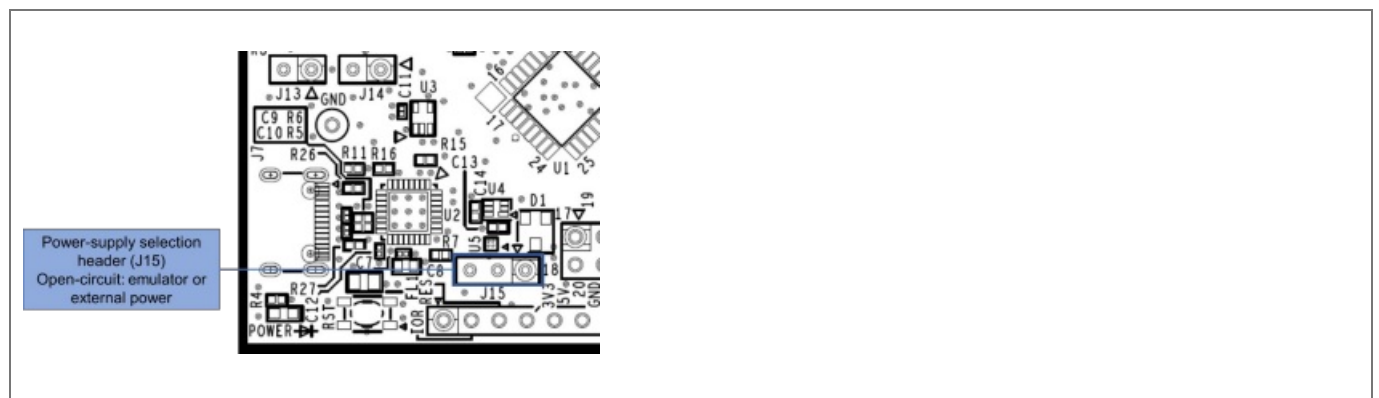

Figure 5-7 Setting of the Header to Select Supply from the Emulator or External Power (Top Side)
- J15 being open-circuit selects supply from the emulator or external power. (Figure 5-7).